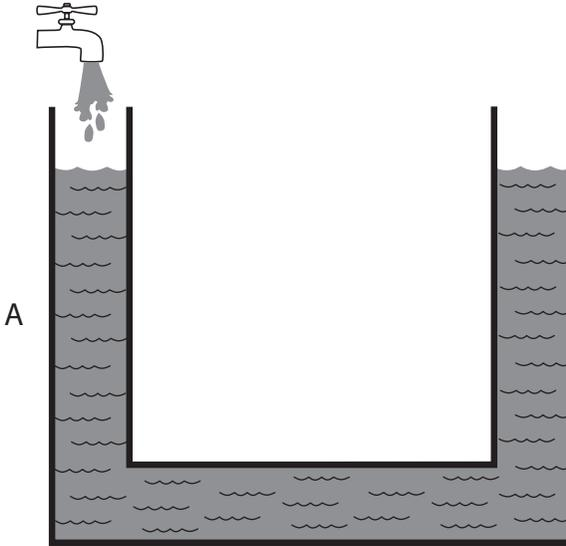

Fig. 1–2. Water seeks its own level.
2. **Water seeks its own level.** As water is poured into one side of a container, the surface will remain level. Figure 1–2 shows that as water is poured into side A, the level in side B will reach the same height. This also means that water will flow downhill or into lower levels of a structure.